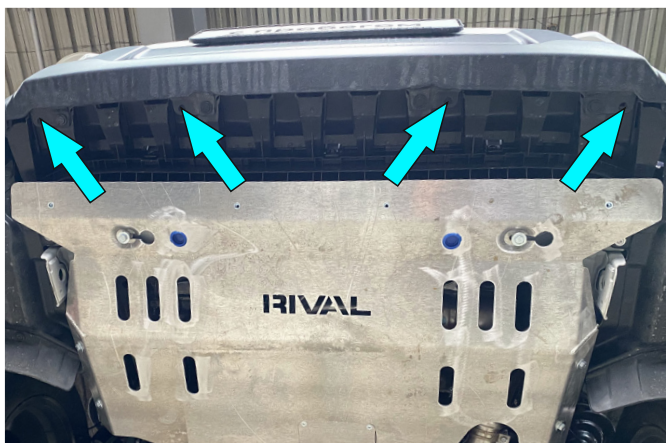

Fig. 7
7. Install U-nut M6 (item E) on holes in bottom part of OE bumper (Fig.7).